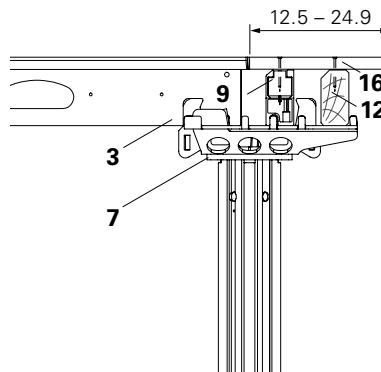

Fig. A5.37
1. Position Combihead SCK (7) with cantilever in the direction of the infill.
2. Install Panel (3).
3. Install Edge Beam SRT-2 (9) or Filler Timber SPH (12) in the Combihead.
4. Install formlining (16) and secure with nails. (Fig. A5.37)